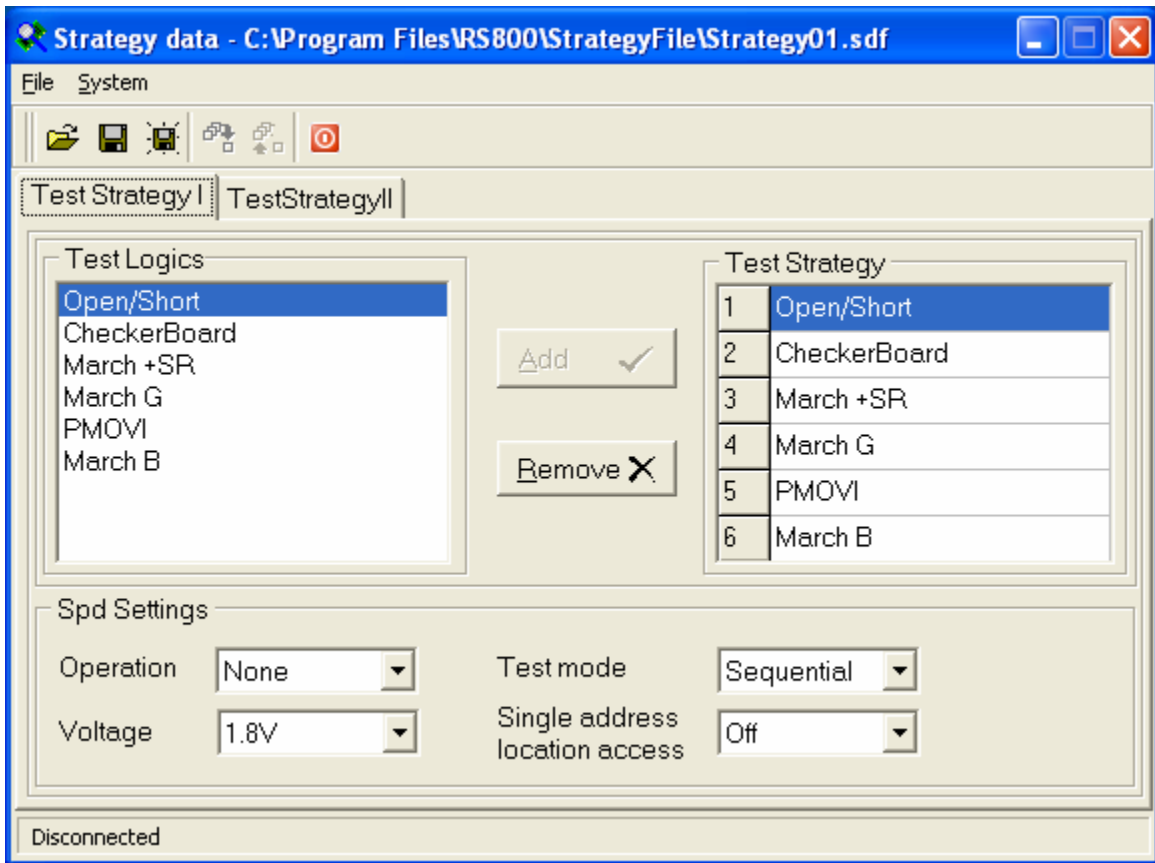

Fig. 35
Step 2: From this next window, user is now ready to configure the test logic sequence. RS800 can have maximum 6 different sequences of test logic in one single test. You can open and edit two test strategy files from the windows interface. By clicking the “Test Strategy I” tab or the “Test Strategy II” tab to select which is the currently editing test strategy file. (Fig. 35)